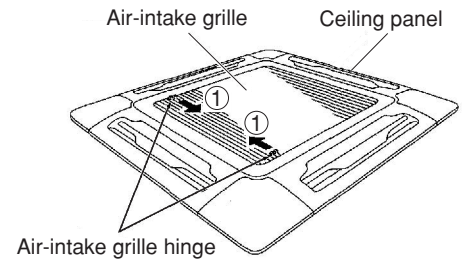

Fig. 9-12
- b) Slide the air-intake grille catches in the direction shown by the arrows ① to open the grille. (Fig. 9-12)